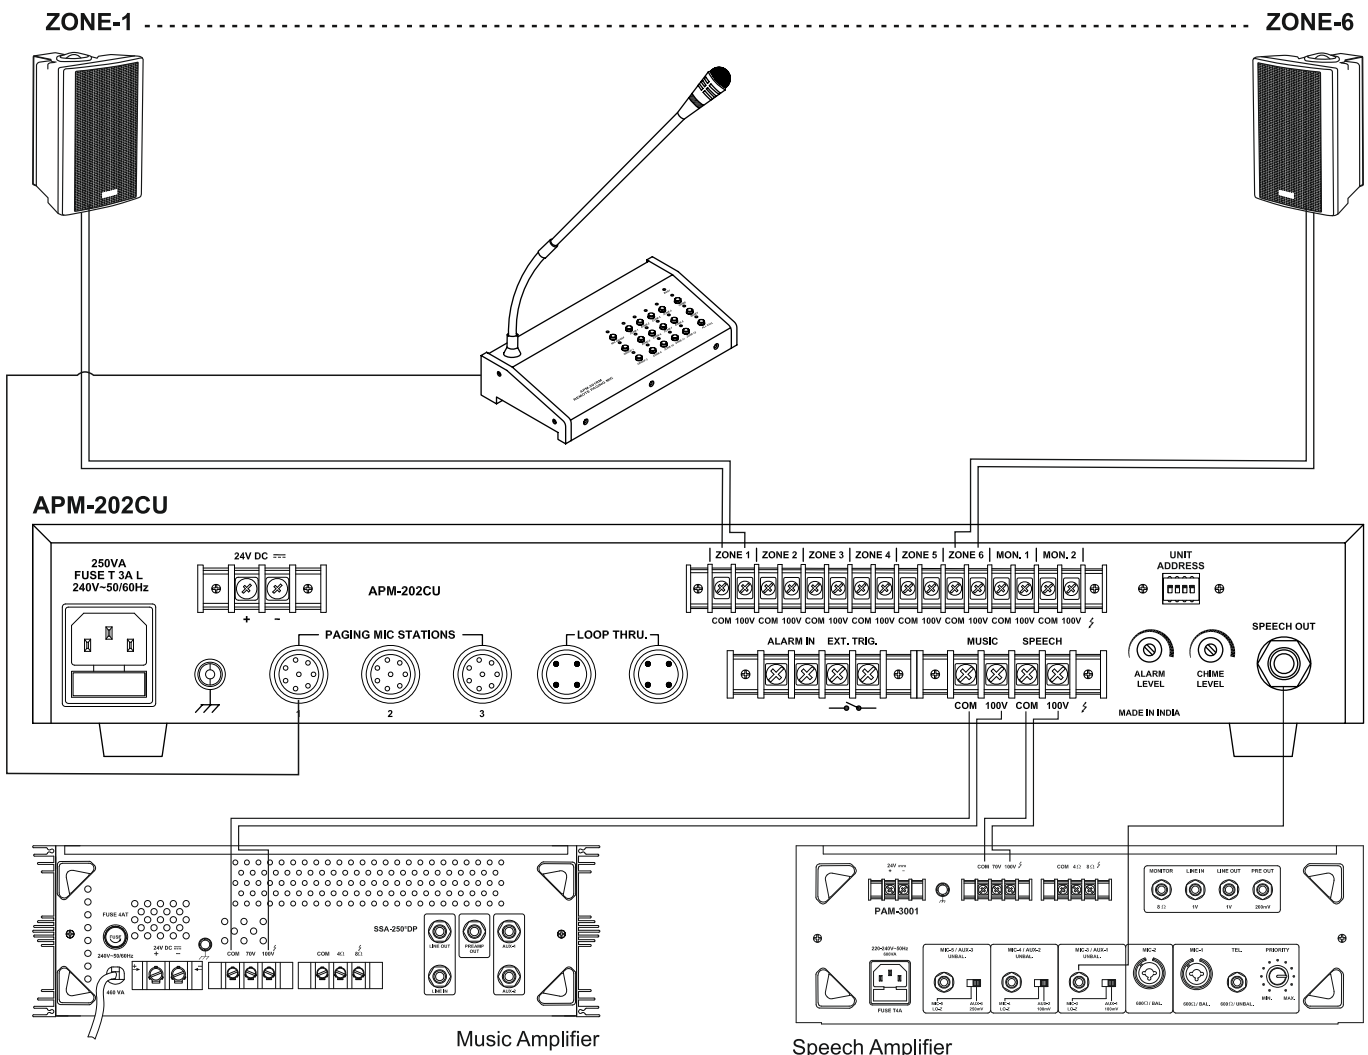

Fig. 6
- 100V output from speech amplifier should be connected to SPEECH terminal block on rear panel of APM-202CU as shown in Fig. 6.
- Connect the music source to the music amplifier for back ground music. 100V output from music amplifier will be connected to MUSIC terminal block on rear panel of APM-202CU as shown in Fig. 6.